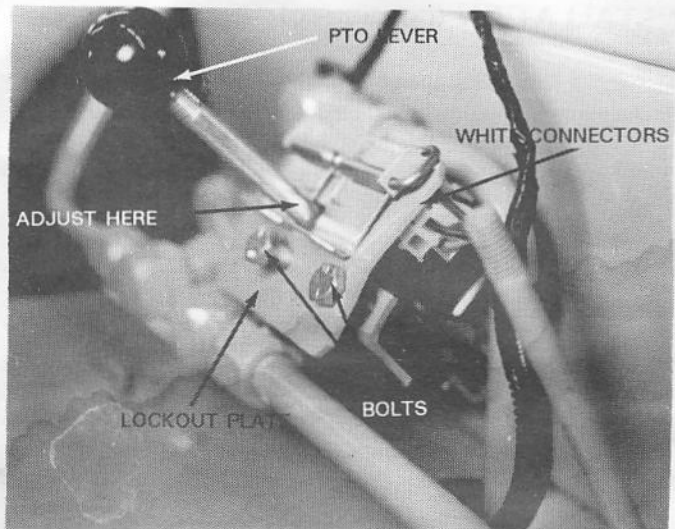

FIG. 14
9. Install the PTO lockout plate (17) to the valve bracket as shown in FIG. 14 using 2 each 5/16-18 X 1/2 inch hex bolts (18). (NOTE: Do not tighten at this time.)
a. Install the PTO lever (23) to the valve bracket FIG. 14 on the clevis pin previously installed in step 2a and install the remaining clevis pin through the valve spool and PTO lever. Be sure to install the cotter pins and bend.
b. Center the PTO lockout plate with the valve lever in the neutral position and tighten the hex bolts. See FIG. 14.
c. Install the white connectors to the micro switches installed on the PTO lockout plate as shown in FIG. 14.